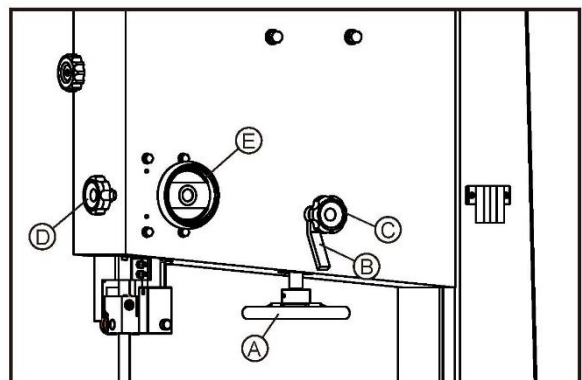

Fig.4.4.2
Place the blade onto the bandwheel checking the teeth are in a correct position, and then tighten the tension using the handwheel (A of FIG.4.4.2). The correct tension value is indicated on the tension scale inside the upper door, the indicated value corresponds to the width of the blade.
- Turn the bandwheels manually, checking that the blade does not interfere with any fixed parts and that the blade is placed correctly on the bandwheels. The points of the teeth should slightly protrude over the edge of the bandwheels. To adjust the blade position on the bandwheels slacken the locking lever( B of FIG.4.4.2), and then turn the knob(C of FIG.4.4.2): the blade will move inwards when turn the knob clockwise and the blade will move further out when turn the knob anticlockwise; A quarter of one circle is sufficient to make a noticeable displacement. Tighten the locking lever after the blade is positioned correctly.
The adjustable saw band guard should be positioned as close as possible to the workpiece. To adjust the height, release the locking knob(D of Fig.4.4.2 ) and turn the handwheel (E of Fig.4.4.2) to adjust the guard up or down. Lock the knob once the correct position of guard is obtained.
The adjustable saw band guard should be positioned as close as possible to the workpiece. To adjust the height, release the locking knob(D of Fig.4.4.2 ) and turn the handwheel (E of Fig.4.4.2) to adjust the guard up or down. Lock the knob once the correct position of guard is obtained. This operation must always be carried out while the machine is stopped.